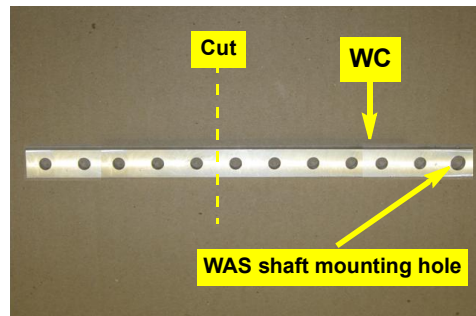

Figure 1b: WAS arm preparation
- b. Cut five holes off WAS arm **WC** at the opposite end from the WAS shaft mounting hole (Figure 1b).